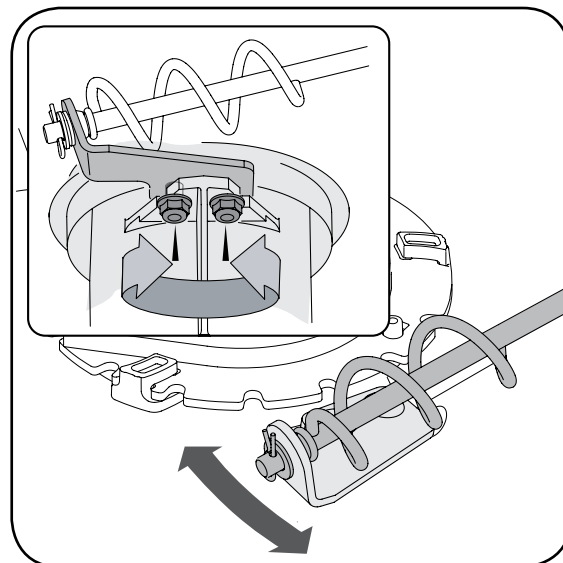

Figure 5-5
1. Loosen the two nuts which secure the chute bracket and reposition it slightly, Figure 5-5.